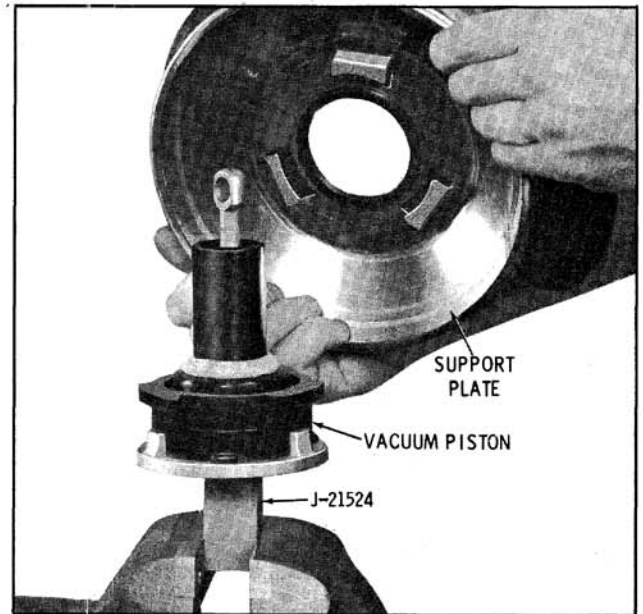

Fig. 11-39 Positioning Support Plate on Vacuum Piston
12. Position the support plate and diaphragm over the tube of the vacuum piston. The flange of the diaphragm fits into the groove on the power piston. (Fig. 11-39)